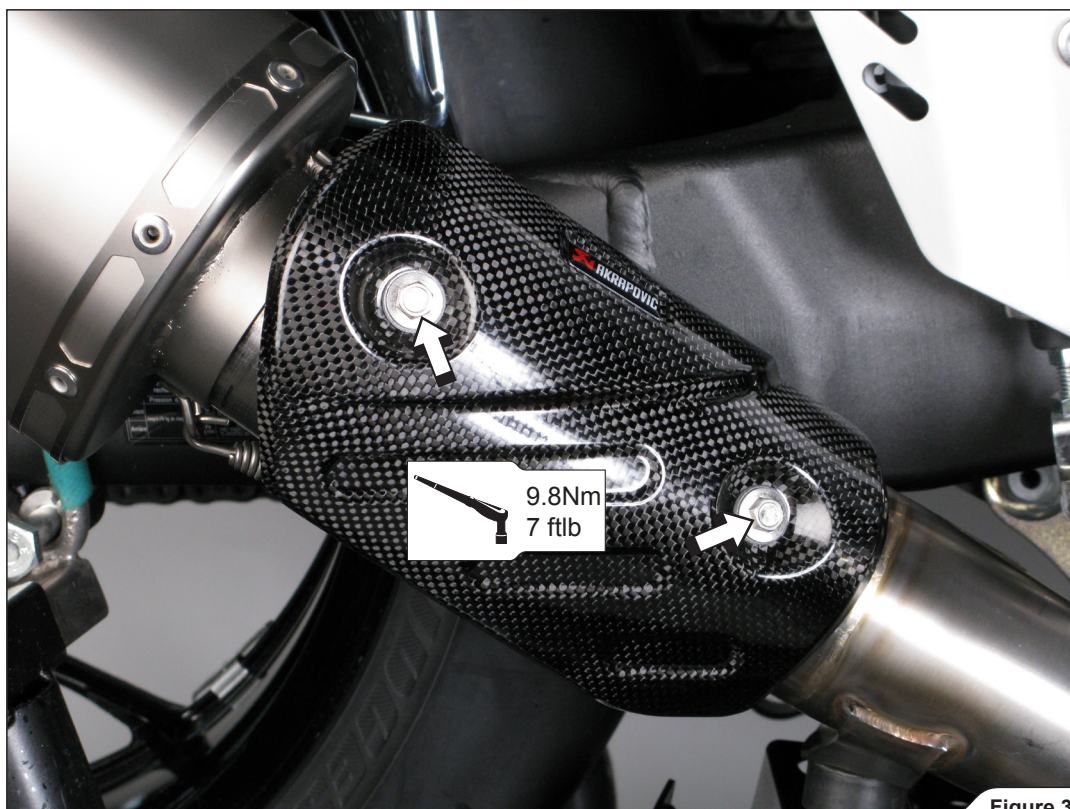

Figure 38
17. Attach the heat shield onto the link pipe and tighten it to a specified torque. Perform the process on both sides of the motorcycle (Figure 38).